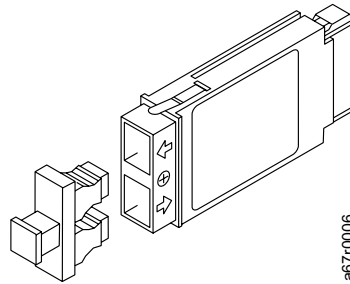

Figure 4. GBIC with dust protector
- Gigabit Interface Converter (GBIC). See Figure 4.